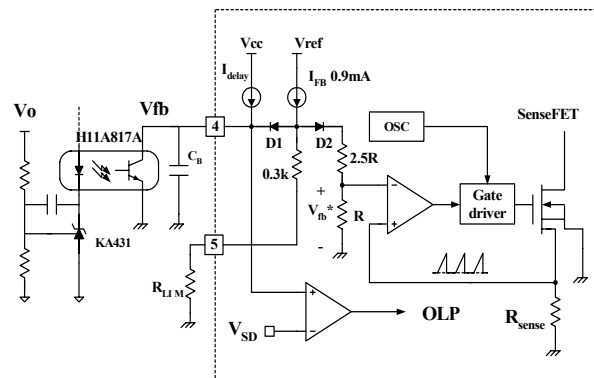

Figure 6. Pulse width modulation (PWM) circuit
2. Feedback Control : FSCM0765R employs current mode control, as shown in Figure 6. An opto-coupler (such as the H11A817A) and shunt regulator (such as the KA431) are typically used to implement the feedback network. Comparing the feedback voltage with the voltage across the Rsense resistor makes it possible to control the switching duty cycle. When the reference pin voltage of the KA431 exceeds the internal reference voltage of 2.5V, the H11A817A LED current increases, thus pulling down the feedback voltage and reducing the duty cycle. This event typically happens when the input voltage is increased or the output load is decreased.
2.1 Pulse-by-pulse current limit: Because current mode control is employed, the peak current through the Sense FET is determined by the inverting input of PWM comparator (V_{fb}^*) as shown in Figure 6. When the current through the opto transistor is zero and the current limit pin (#5) is left floating, the feedback current source (I_{fb}) of 0.9mA flows only through the internal resistor ($R + 2.5R = 2.8k$). In this case, the cathode voltage of diode D2 and the peak drain current have maximum values of 2.5V and 3A, respectively. The pulse-by-pulse current limit can be adjusted using a resistor to GND on current limit pin (#5). The current limit level using an external resistor (R_{LIM}) is given by